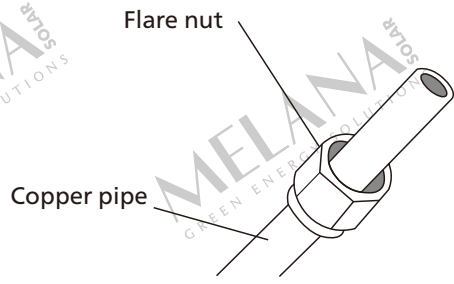

Fig. 6.3
3. Place are nuts on both ends of pipe. Make sure they are facing in the right direction, because you can't put them on or change their direction after a ring. See Fig. 6.3.